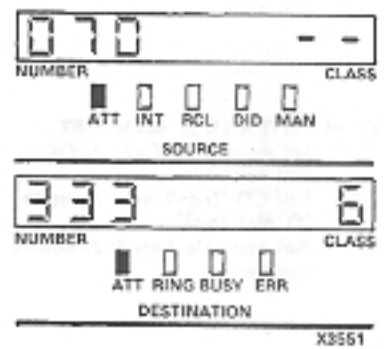

Fig. 300-3
- \* SOURCE display (Fig. 300-3) shows the number of the calling trunk, ATT lamp lit